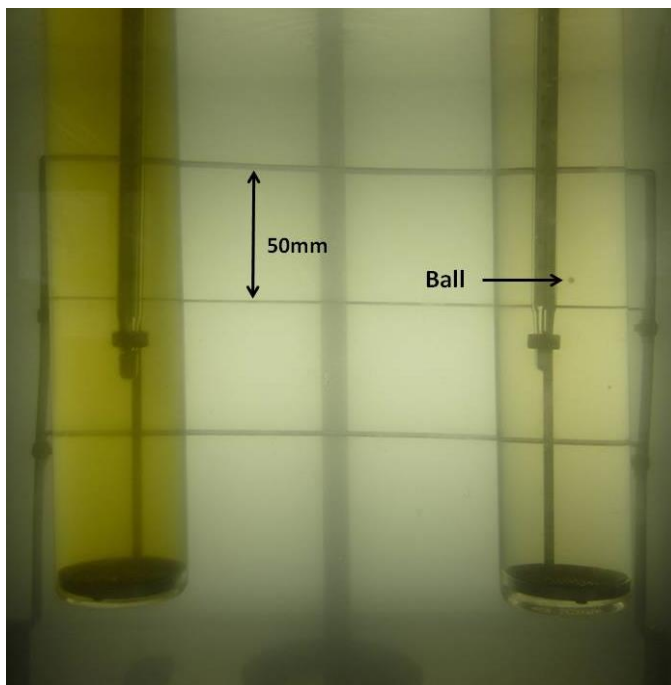

Fig 8: Experimental setup.
The viscosity index is a good indicator of the viscosity's variation with temperature. This notion (VI=viscosity index) was created by Dean and Darvis in 1929. They used two different types of oil as a reference: Those that vary a lot with temperature (VI=0) and those that don't (VI=100). The viscosity index is given by comparing the oil with the reference oils. (figure 8)
Supposing we have an oil whose viscosity varies like the dashed line on figure 8, the viscosity index is calculated according to equation (11):